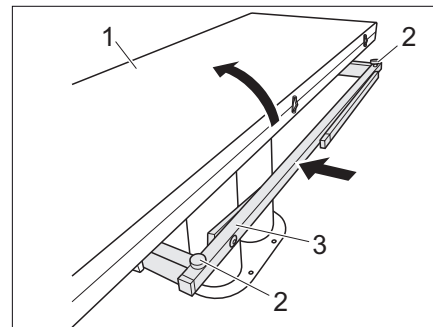

Fig. 59 Reducing the table
- ▶ Fold in the table half (Fig. 59,1).
- ▶ Screw the two adjusting screws (Fig. 59,2) in.
- ▶ Push in the table base (Fig. 59,3).